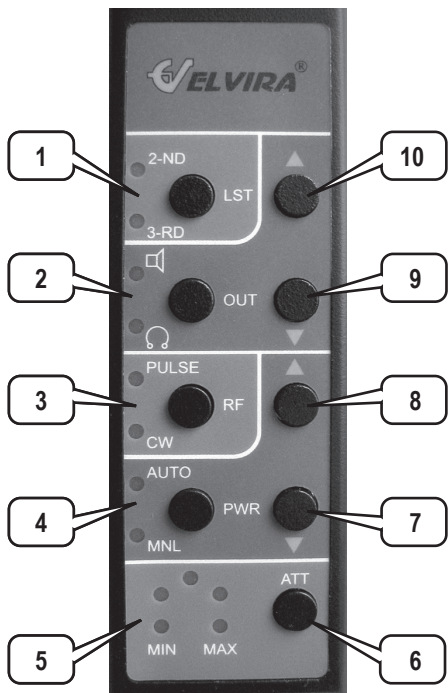

Fig. 4
4.3. The control panel is used to control operation of the detector. It consists of a case combined with a battery and fixed on the arm. Control board, buttons for operation modes control and display LEDs are placed in the package. Control buttons are divided into two groups by their function: «AUDIO» placed in the upper half of the panel and «POWER RF» in the lower half. Control panel is shown in Fig.4 The following buttons refer to «AUDIO» group:
6.4. If a response signal is to be tapped by phones, switch over acoustic indication to the head phones mode pressing the corresponding button on the control panel (see 2 in Fig.4) and turning wireless phones on (according to their User Manual).